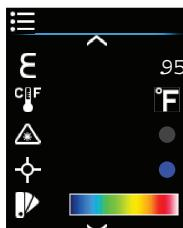

Figure 5.11 Programming menu example
- To access the programming menu, set the function switch to any position to switch the meter on, and then press and hold the IGM button for > 3 seconds. The menu should now show a display, similar to the one in Fig. 5-11.